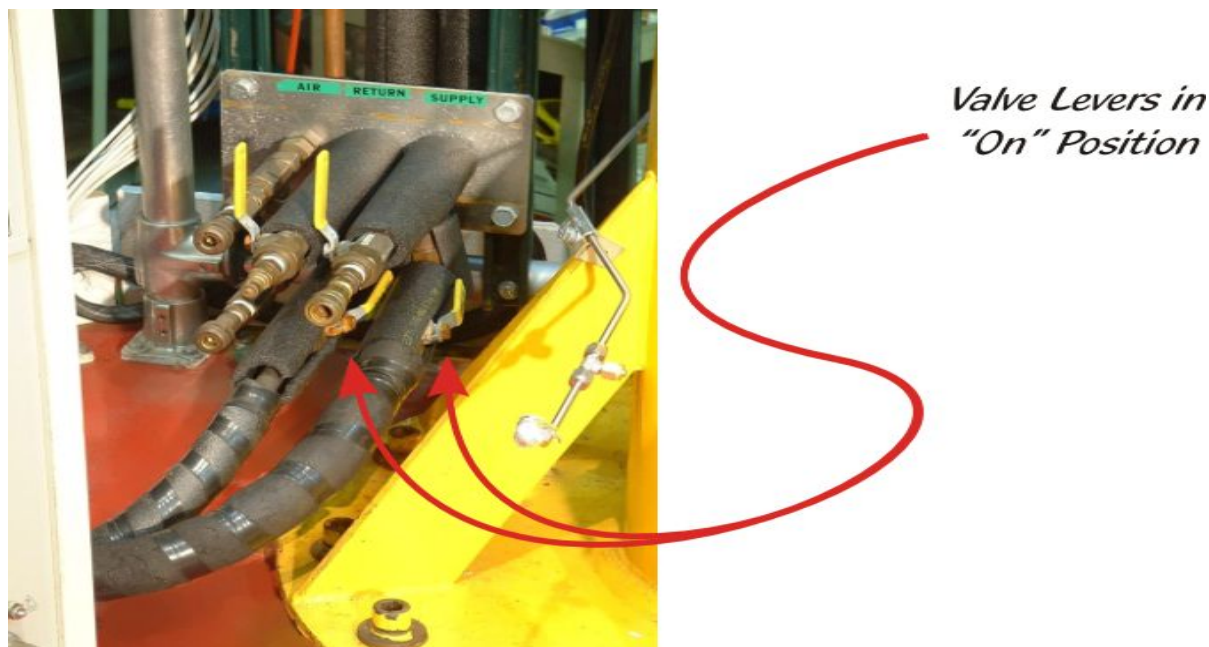

Figure 23: Chilled Water Access
4. Make sure both Supply and Return are open. See Figure 23